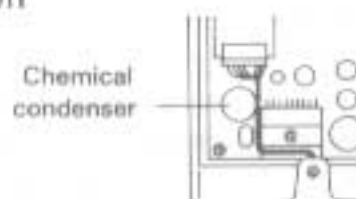

Fig. 4
8. Route the wiring as shown in the diagram. (Fig. 4)